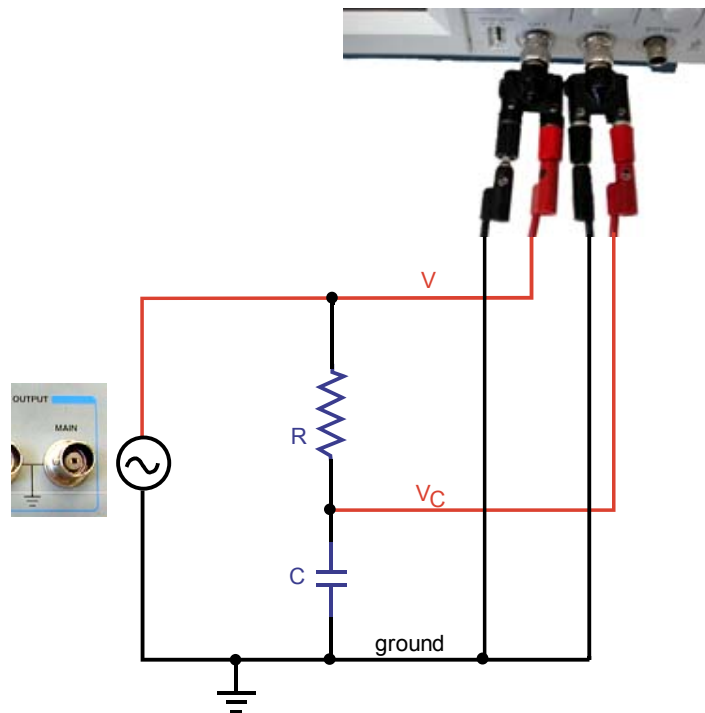

Figure 11-12. RC filter circuit for Part D.
- (a) Connect the CH1 input to measure the voltage applied by the function generator, by connecting its center connector to the point labeled "V" in Figure 11-12. Use the $R = 10\text{ k}\Omega$ resistor for this part.
- (b) Connect the CH2 input to measure the voltage appearing across the capacitor, by connecting its center pin to the point labeled " V_C " in Figure 11-12. Adjust the vertical position so that both traces are centered about the horizontal midline.